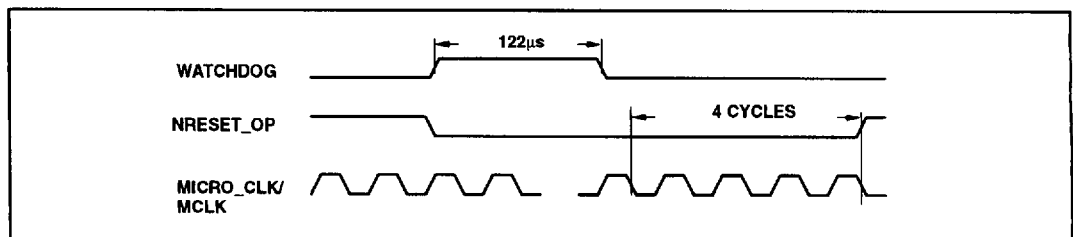

Fig. 10 : Watchdog Hardware Reset Generation
**Watchdog:** An expiry of the watchdog will result in a hardware reset as shown in Fig. 10. This reset will clear the watchdog whose time-out period is 2–3 seconds.